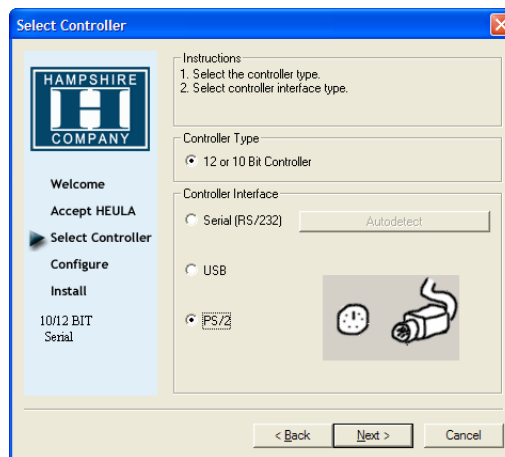

Figure 14 M6000 Controller, touch screen controller installation.
- 2 To set up the touch screen driver, select the controller type **TSHARK-10/12 PS/2** as shown in Figure 14.